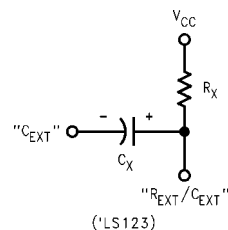

FIGURE 1.
2. When an electrolytic capacitor is used for  $C_X$  a switching diode is often required for standard TTL one-shots to prevent high inverse leakage current. This switching diode is not needed for the DM74LS123 one-shot and should not be used. In general the use of the switching diode is not recommended with retriggerable operation. Furthermore, if a polarized timing capacitor is used on the DM74LS123 the negative terminal of the capacitor should be connected to the "CEXT" pin of the device (Figure 1).